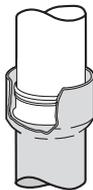

Fig.40a Positioning seal ring in socket
Step 1 – Place rubber seal ring over spigot to half depth of socket (Fig.40a)